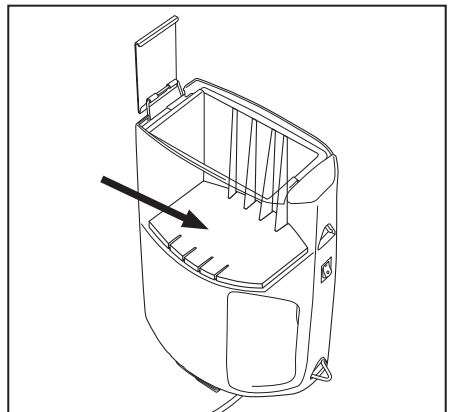

Fig. 19
- Place the new charcoal filter in the back wall of the vacuum. It should fit snugly against the inside wall of the vacuum (Fig. 19).